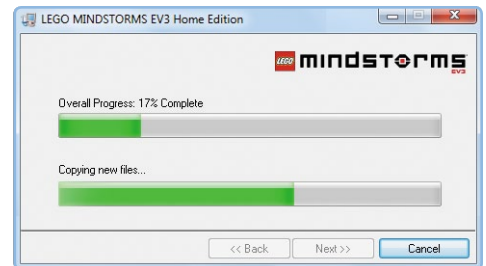

Figure 1-10: Installation in progress. Launch the installer by double-clicking the installation file that you've downloaded.
3. On Windows, double-click the file you've just downloaded and install the software according to the instructions shown on the screen (see Figure 1-10).